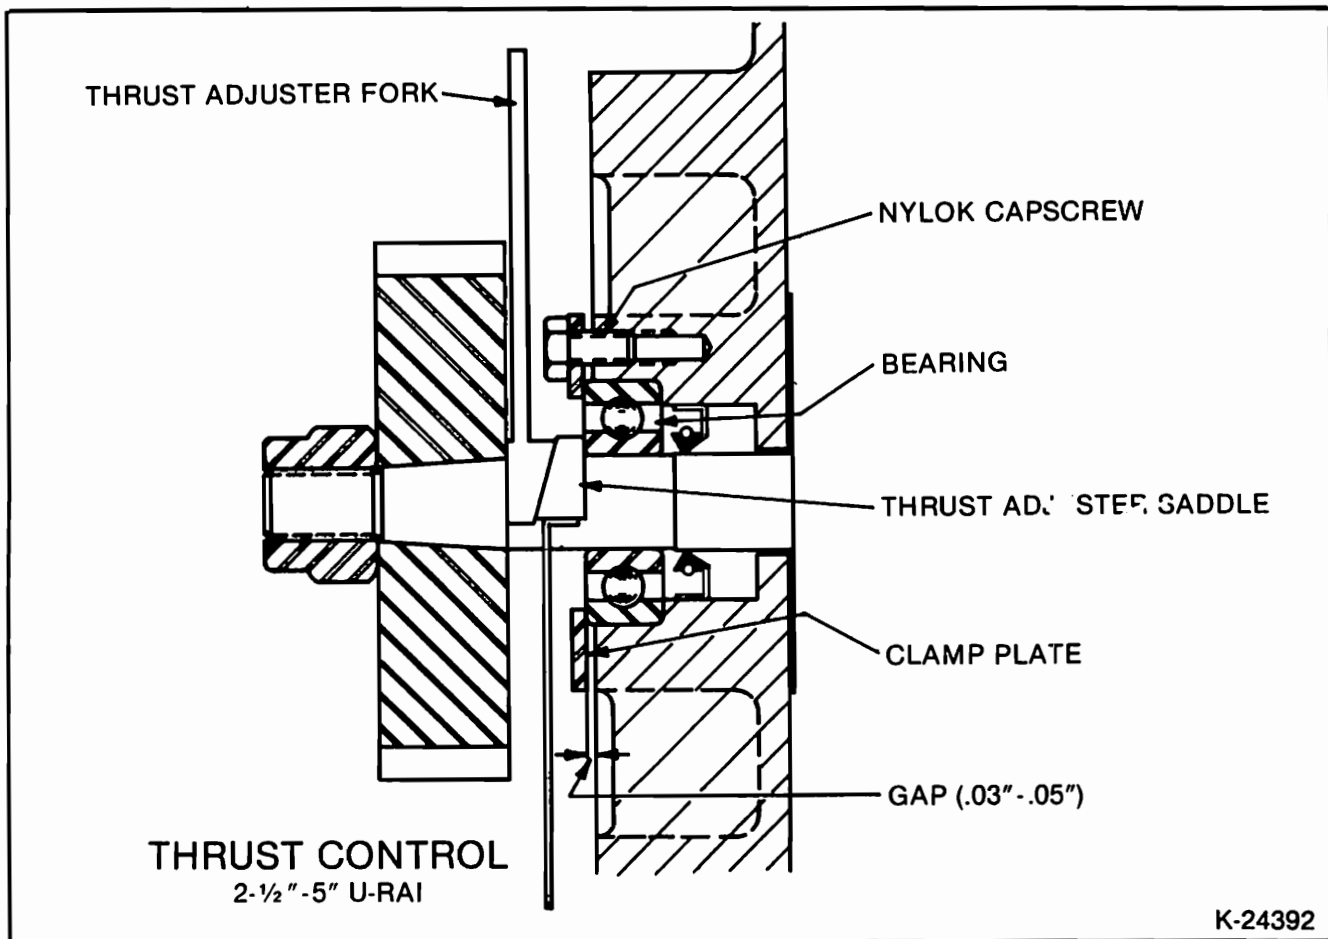

Figure 6 — Thrust Setting, 2½"-5" Universal RAI
to Fig. 6 for installation of tools. The flat side of the saddle rests against the bearing inner race and the flat side of the fork rests against the back side of the gear. Install a shim, with thickness equal to gear end clearance (Table 6), between the impeller and the gear end headplates. Tap on top of the fork until the shim becomes snug. Remove the shim and check end clearances. To increase gear end clearance, tap on the end of the gear end shaft with a soft metal mallet. On 6" units set end clearances by turning capscrews (31) evenly in or out.
16. Install drive end cover (5) after packing bearing cavities with suitable grease. Replace drive shaft seal. Lip must point toward (33) the bearing. Exercise care not to damage the lip as it passes over shaft keyway.
17. Install gasket item (7). Install the gear house after cleaning out the inside. Tighten gear box cap screws (23) evenly. Fill with correct grade of oil until oil flows out through oil level hole. Grease drive and bearings. (See Lubrication.)